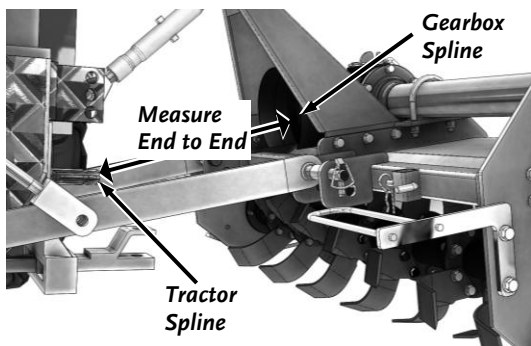

Figure 13: Raised Position
3. Raise the Tiller up as far as it will go (**Figure 13**). Measure from the end of the Tractor Spline Shaft to the end of the Tiller Gearbox Shaft and record this dimension in the "FULLY RAISED" row of the table above.